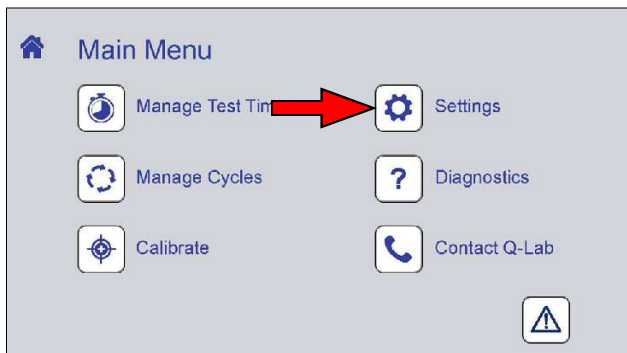

Figure 9.7a: Touch the Settings icon on the Main Menu screen to display settings controls.
- On the Main Menu screen touch the Settings icon (Figure 9.7a) to display the Settings screen.
- o A button appears in the upper right corner of the screen to toggle the remaining screen between Main Menu and Status displays (see Figure 9.7x through Figure 9.7aa).
Figure 9.7aa: Touch the Menu Screen icon to display the Menu Screen.